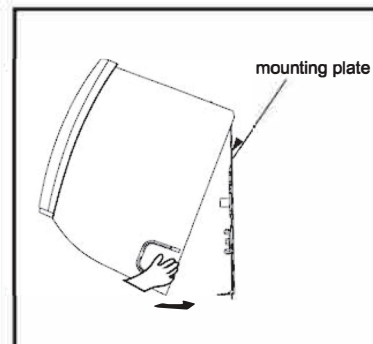

Fig. C.7.1
- 1) Hang the unit onto mounting plate (Fig. C.7.1).